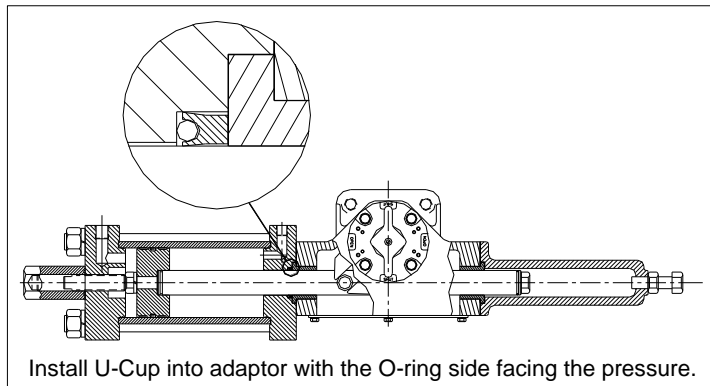

FIGURE 8
- J. Assemble bolt (33) on end of piston rod before installing rod cover when rod cover is required.
- K. Install rod cover (28) if applicable. Actuators utilizing one piston only require a rod cover. Bolt rod cover and gasket in place with socket head screws (39). Use "Loctite 222 Thread Locker."
- L. Install piston rod lip seal (29a), by lubricate o-ring with "Dow Corning #55" lubricant, and then inserting cup end into deeper recess of HP adaptor (26b). **The open lips of the cup must face the cylinder so that the lip seal expands under operating pressure** (shown in Figure 8). If spring return lubricate piston rod o-ring (29) with "Dow Corning #55" lubricant and install on piston rod (4, 4a).